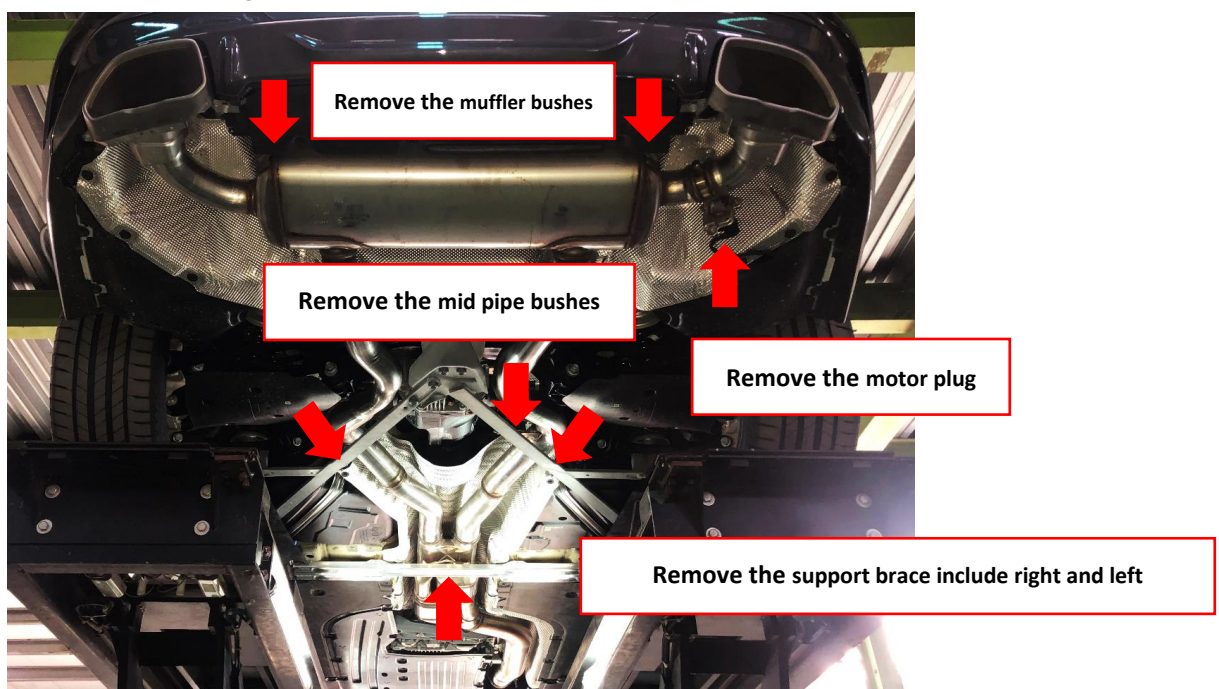

Figure 2
2. Remove the original support braces, mid pipe bushes and muffler bushes to remove the original mid pipe. After removal, the motor on the original muffler must be removed. (Figure 2)